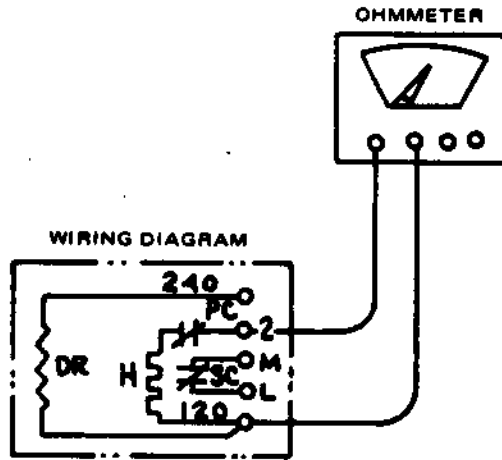

FIGURE 5
4. Disconnect control wires from control. Attach an ohmmeter to the controls terminals '2' and '120' (See Figure 5). Select the scale that has the highest deflection.